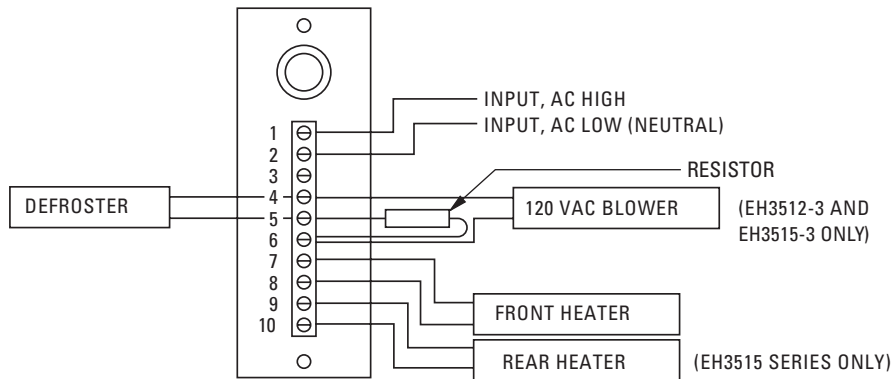

Figure 3. EH3508/EH3512/EH3515 Series Wiring Diagram
* Illustrated in 24 VAC wiring diagram in Figure 3.
**Illustrated in 24 VAC wiring diagram in Figure 3.